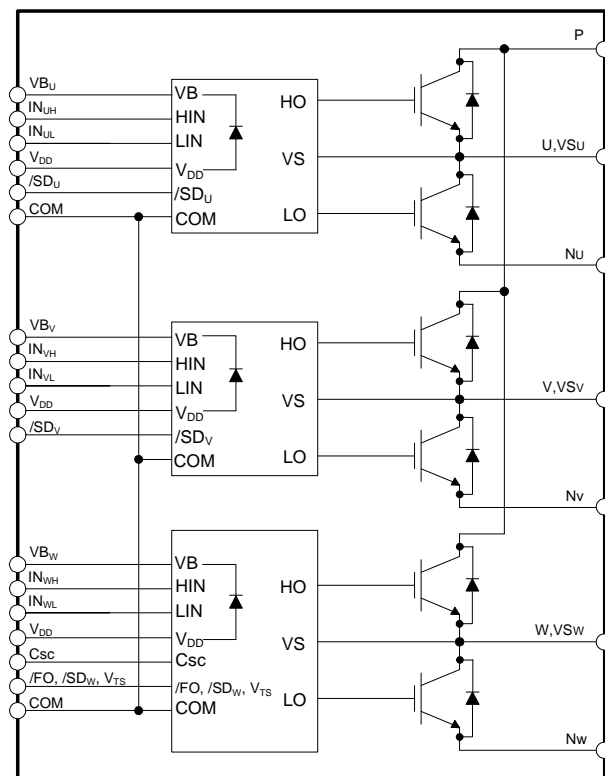

Figure 3. Internal Block Diagram
- 600 V - 15 A IGBT inverter for three phase DC / AC power conversion (*Please refer to Figure 3*)